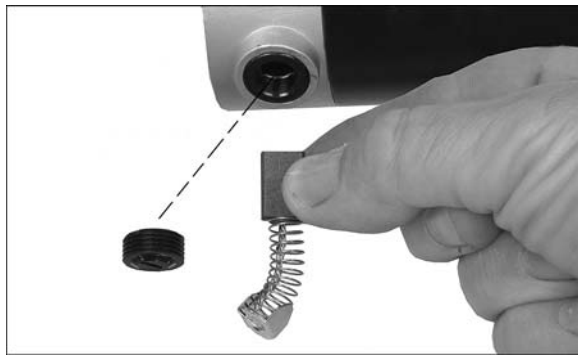

Figure 29
2. Unscrew cap (Figure 29) using a screwdriver or coin, and withdraw brush.